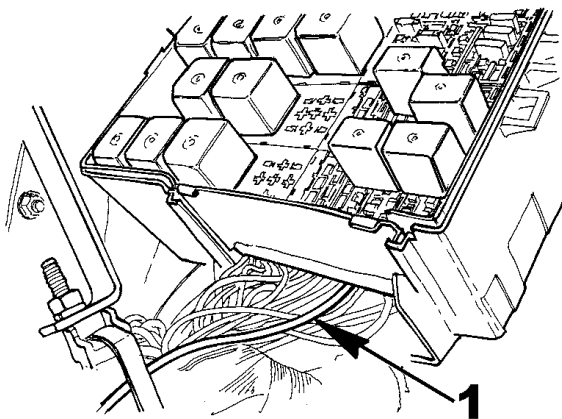

Figure 8 Route Harness Wire
10. Route the new harness wire from the 40 pin connector to the Power Distribution Center (P.D.C.) fuse box (Figure 8). Go under any tie-wraps between the connector and the fuse box. If the ty-wraps are too tight, carefully cut them off, route the harness wire, and install a new tie-wrap.